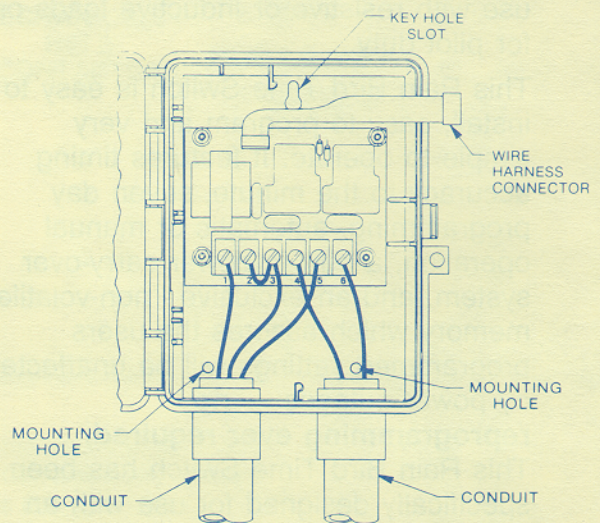

Fig. 2
3. **Mount Time Switch:** Properly locate and position case. Insert screws through holes in case (See Fig. 2) and tighten to secure.